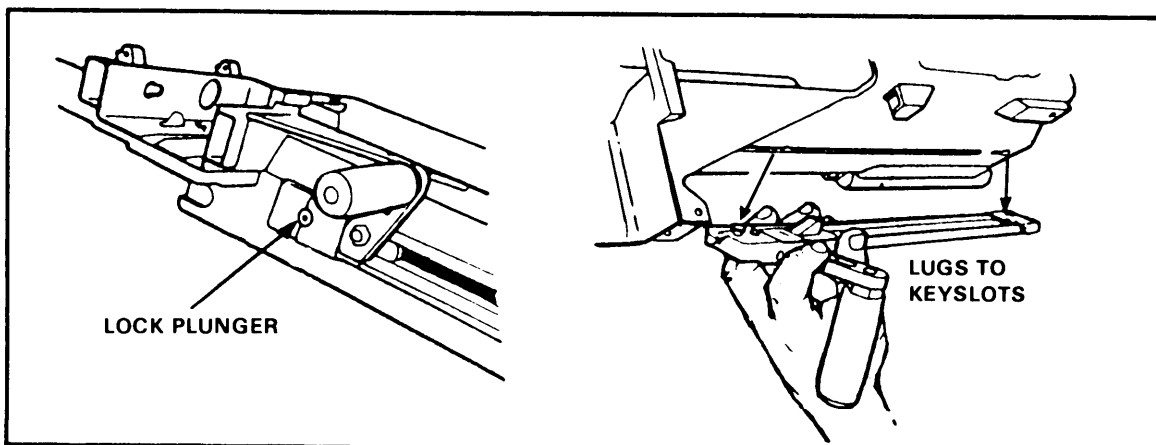

Figure 2-17. Charger assemblies.
(11) Take out the charger assemblies from both sides. Place the charger assemblies in the upright position. Using a metal link or spent cartridge case, retract the lock plunger at the base of the charger arm. Slide the charger housing rearward to disengage the lugs from the keyslots in the receiver. Lift the charger assembly away from the receiver (Figure 2-17).